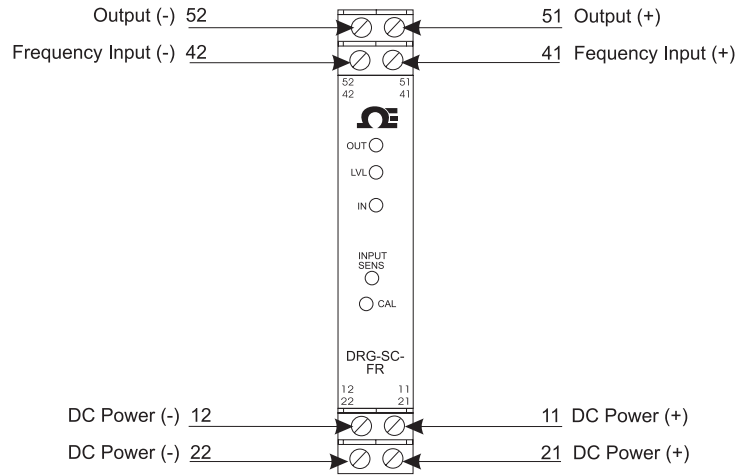

Figure 2: Wiring Diagram for DRG-SC-FR
1. After configuring the DIP switches, connect the input to a calibrated frequency source. Connect the output to the actual device load (or a load approximately equivalent to the actual device load value) and apply power (see wiring diagram, Figure 2).